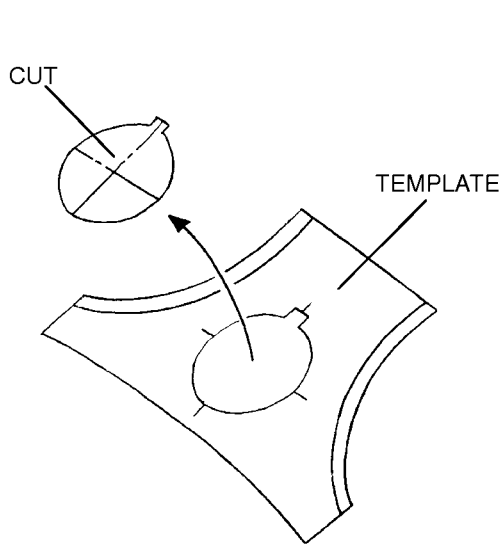

FIGURE 11
2. Remove the cut-out piece from the template (refer to Figure 11).